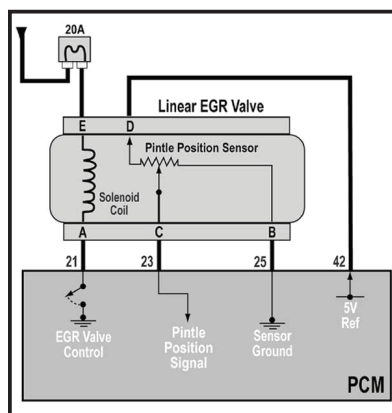

FIGURE 1
2. All of the following statements regarding the schematic shown in Figure 1 are true EXCEPT: